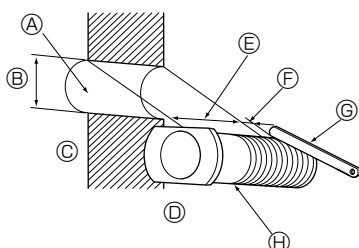

Fig. 3-6
3.4.1. Making holes (Fig. 3-6)
- ① Make $\phi 65$ mm or $\phi 75$ mm holes that are approximately 5–7 mm deep and angled slightly downward outward from the room.
- ② Insert the wall hole sleeves into the holes.
- (A) Wall hole